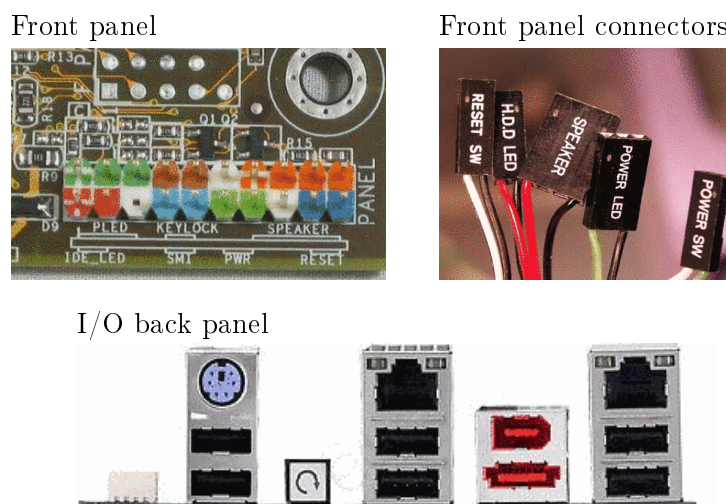

Figure 4.5: Front panel and I/O back panel³
that is to be brought out of the computer case on the front. In Figure 4.5 we can see it on the top left. Next to it is a set of connectors to plug in (for various indicator LEDs – for example, to indicate hard drive activity, but also to the power or reset button).
**Back panel** (also I/O panel, in Figure 4.5 below) faces the back of the computer and there are sockets leading from integrated components – USB jacks, sockets for VGA, DVI, HDMI (if we use integrated graphics), audio, network, etc.